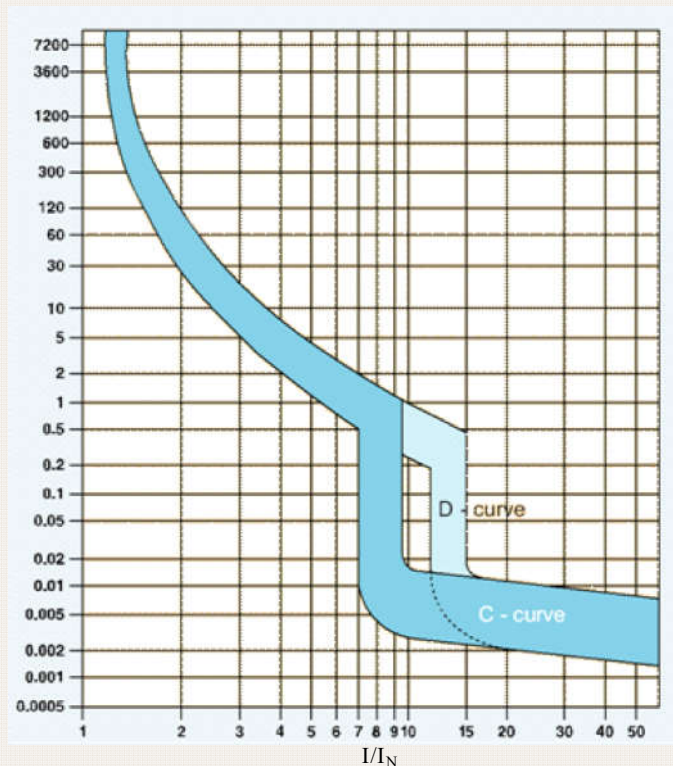

figure 17. – www.clipsal.com
3. Draw on figure 17 a line to show the multiple of rated current.